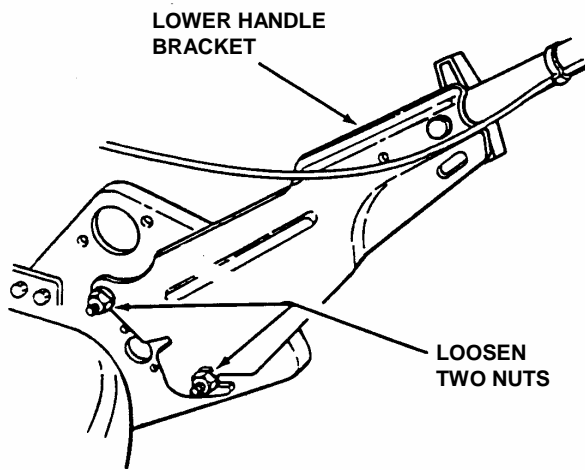
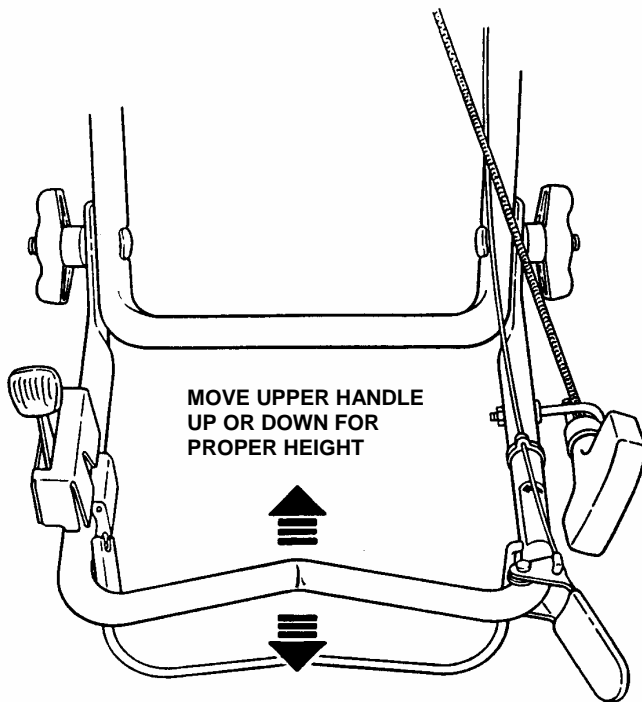

FIGURE 4
FIGURE 5
STEP 5: Handle height is adjustable for different height of operators. Loosen the two nuts on the inside of each of the lower handles. See Figure 4. Move the handle up or down to the desired height. See Figure 5. Retighten all nuts securely after adjustment. Pull blade control against upper handle, pull rope start handle and loop into rope guide. See Figure 5.